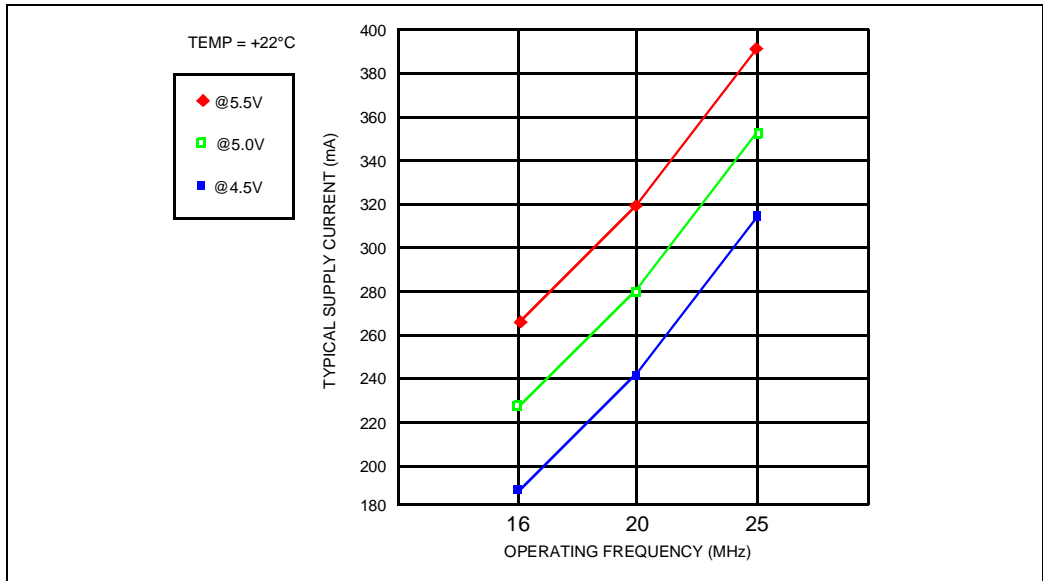
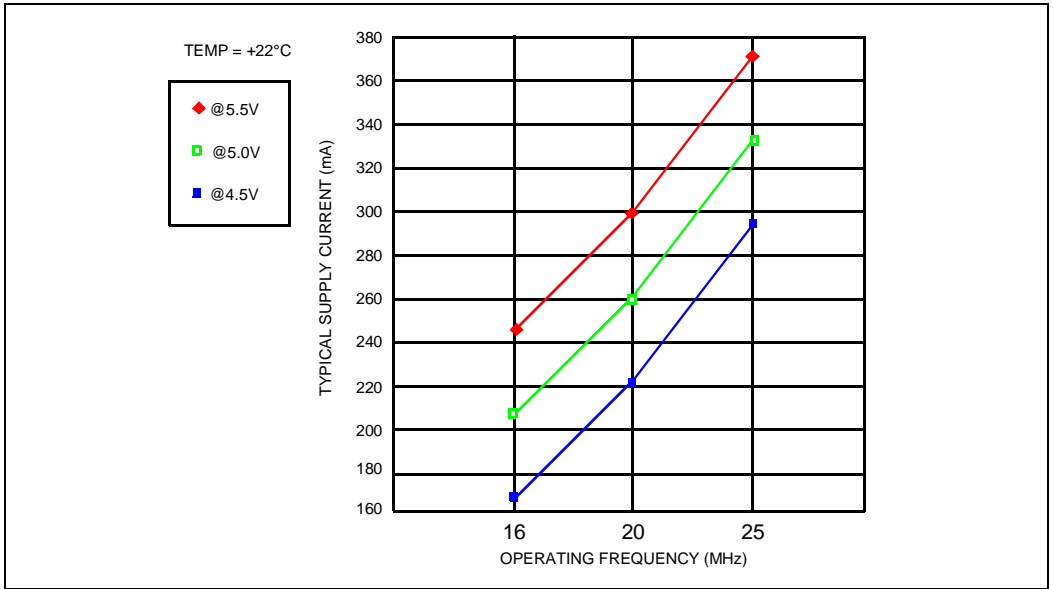
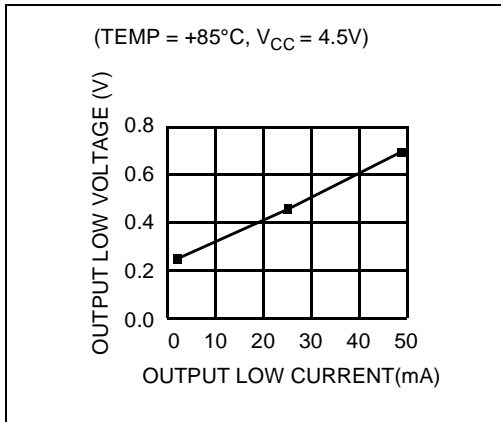
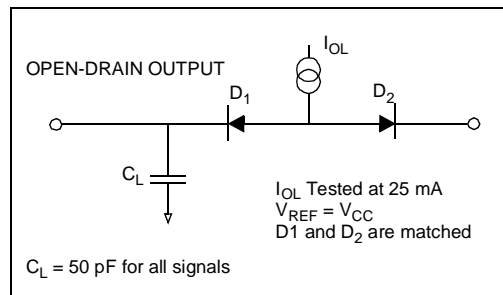

Figure 7. Typical Current vs. Frequency (Room Temp)
Figure 8. Typical Current vs. Frequency (Hot Temp)
Figure 9. Worst-Case Voltage vs. Output Current on Open-Drain Pins
Figure 12. Test Load Circuit for Open-Drain Output Pins
Figure 7 shows typical supply current requirements over the operating temperature range of the processor at supply voltage ( $V_{CC}$ ) of 5 V. Figure 8 and Figure 9 show the typical power supply current ( $I_{CC}$ ) that the 80960MC requires at various operating frequencies when measured at three input voltage ( $V_{CC}$ ) levels and two temperatures.
Figure 12 illustrates the load circuit used to test the 80960MC's three-state pins; Figure 13 shows the load circuit used to test the open drain outputs. The open drain test uses an active load circuit in the form of a matched diode bridge. Since the open-drain outputs sink current, only the  $I_{OL}$  legs of the bridge are necessary and the  $I_{OH}$  legs are not used. When the 80960MC driver under test is turned off, the output pin is pulled up to  $V_{REF}$  (i.e.,  $V_{OH}$ ). Diode  $D_1$  is turned off and the  $I_{OL}$  current source flows through diode  $D_2$ .
- Measured at worst case frequency,  $V_{CC}$  and temperature, with device operating and outputs loaded to the test conditions in Figure 12 and Figure 13. Figure 7, Figure 8 and Figure 9 indicate typical values.